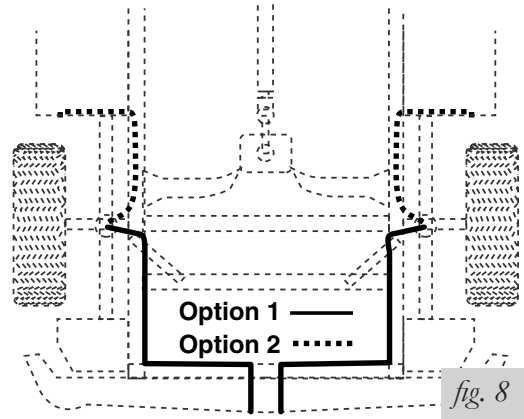

fig. 8
8. Select a location for the inflation valve in the gas cap well, the trunk, rear bumper, fender flange or behind license plate, insuring that the valve will be protected and accessible with an air hose (fig. 8).